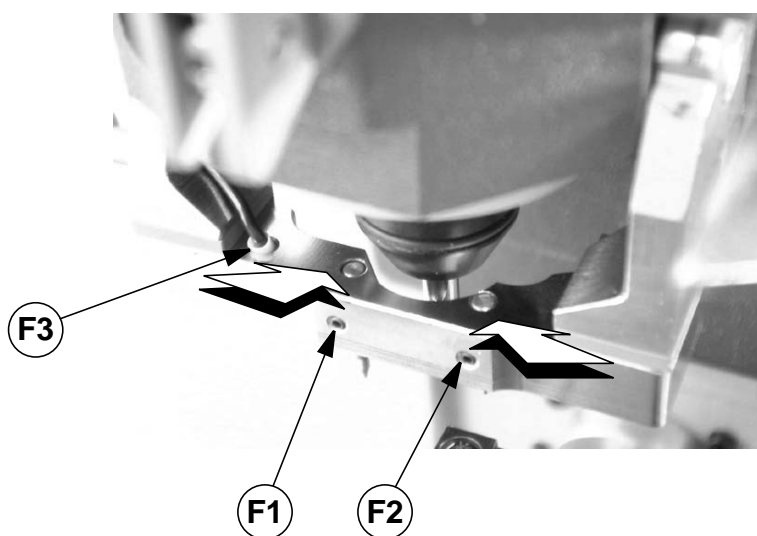

Fig. 54
- 3) replace with a new decoder, aligning it with the top of the TRACER TOWER (fig. 54).